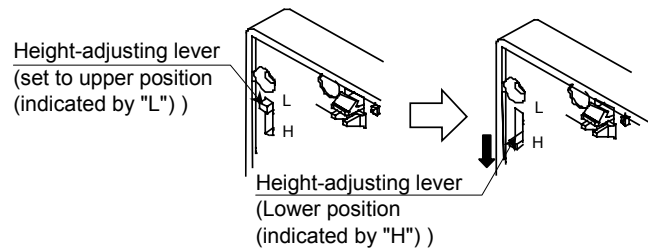

Figure 12. Height-adjusting lever
- 4) Remove the cover from the Neosensor main unit, and mount the main unit on the main part of the Wall-direct mounting kit with the 4 main-unit accessory screws (M3 × 16). When mounting the main unit onto the Wall-direct mounting kit, make sure to set the height-adjusting levers on the left and right sides (See Fig. 12.) to the upper positions (indicated by "L").
- 4) Remove the cover from the Neosensor main unit, and mount the main unit on the Wall-direct mounting kit with the 4 main-unit accessory screws (M3 × 16). When mounting the main unit onto the Wall-direct mounting kit, make sure to set the height-adjusting levers on the left and right sides (See Fig. 12.) to the upper position (indicated by "L").
- 5) Remove the cover from the Neosensor main unit, and mount the main unit on the main part of the Thermoplate mounting kit with the 4 main-unit accessory screws (M3 × 16). When mounting the main unit onto the Thermoplate mounting kit, make sure to set the height-adjusting levers on the left and right sides (See Fig. 12) to the upper position (indicated by "L").